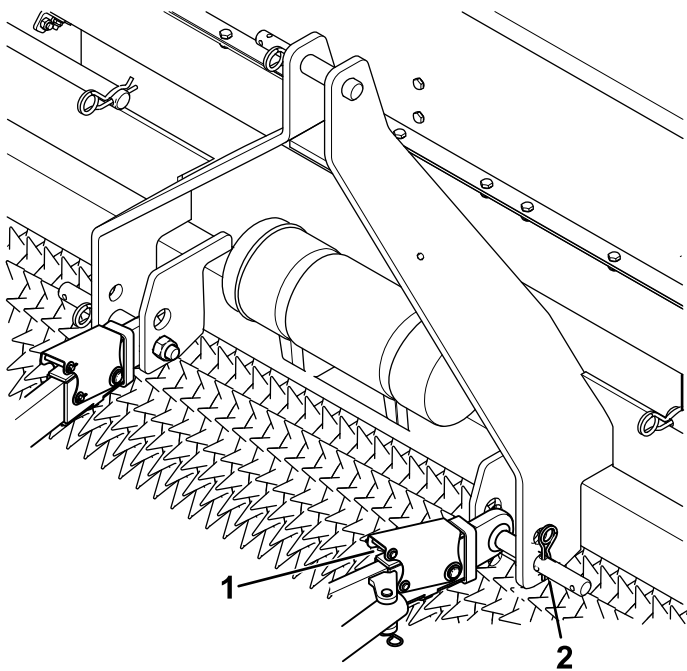

Figure 6
5. Insert the right and left lower link arms onto the hitch pins (Figure 6).